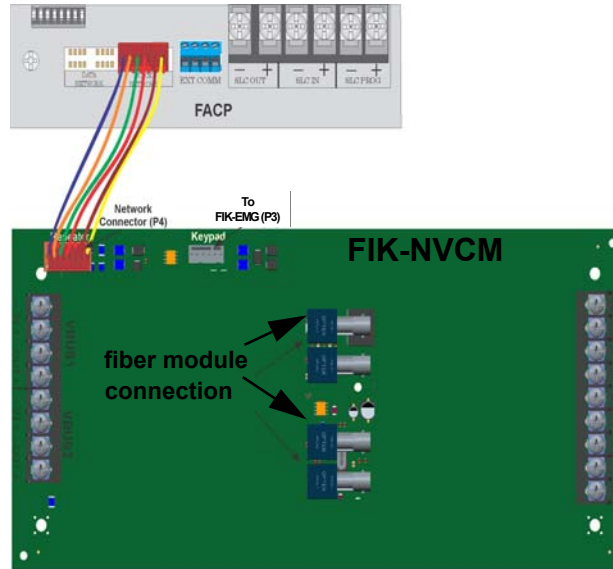

Figure 3 FIK-NVCM Connection to the FACP
1. Connect the FIK-NVCM (P4) connector to the FACP Network Voice Connector. See Figure 3 to properly connect.